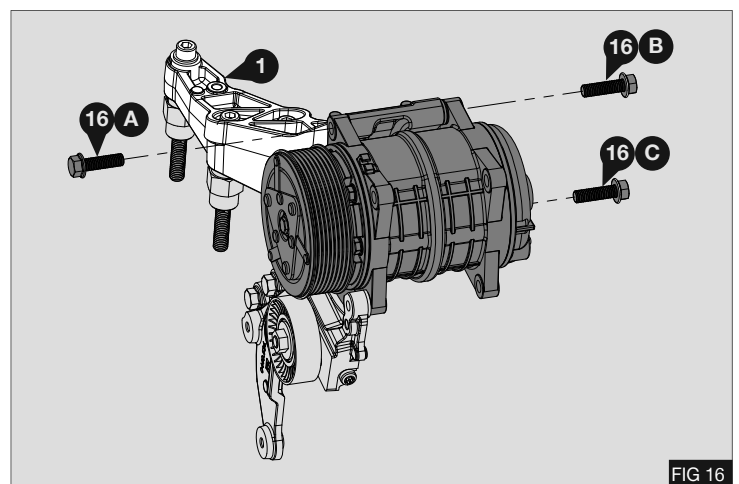

FIG 16
- Secure the compressor to bracket (1) using 3x bolts (16). Torque 3x M10x35 bolts (16) to 58Nm / 43lb. ft. in the following sequence : Fig 16